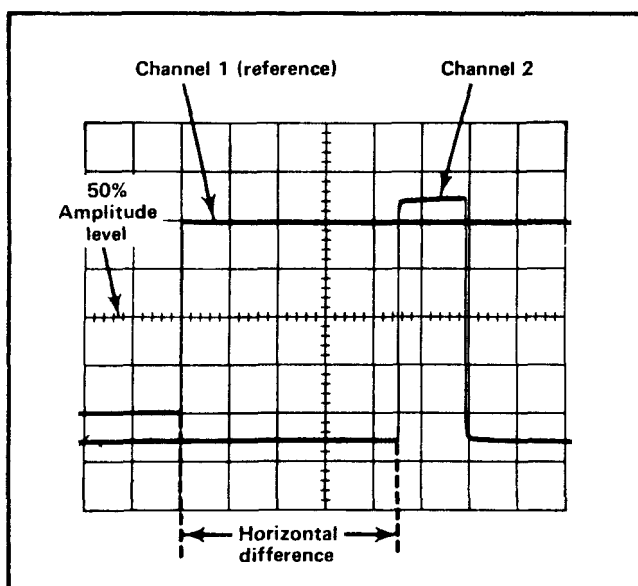

Fig. 2-11. Measuring time difference between two pulses.
11. Measure the horizontal distance between the Channel 1 waveform and the Channel 2 waveform (see Fig. 2-11).
EXAMPLE. Assume that the TIME/DIV switch is set to  $50 \mu\text{s}$  and the horizontal distance between waveforms is 4.5 divisions (see Fig. 2-11).